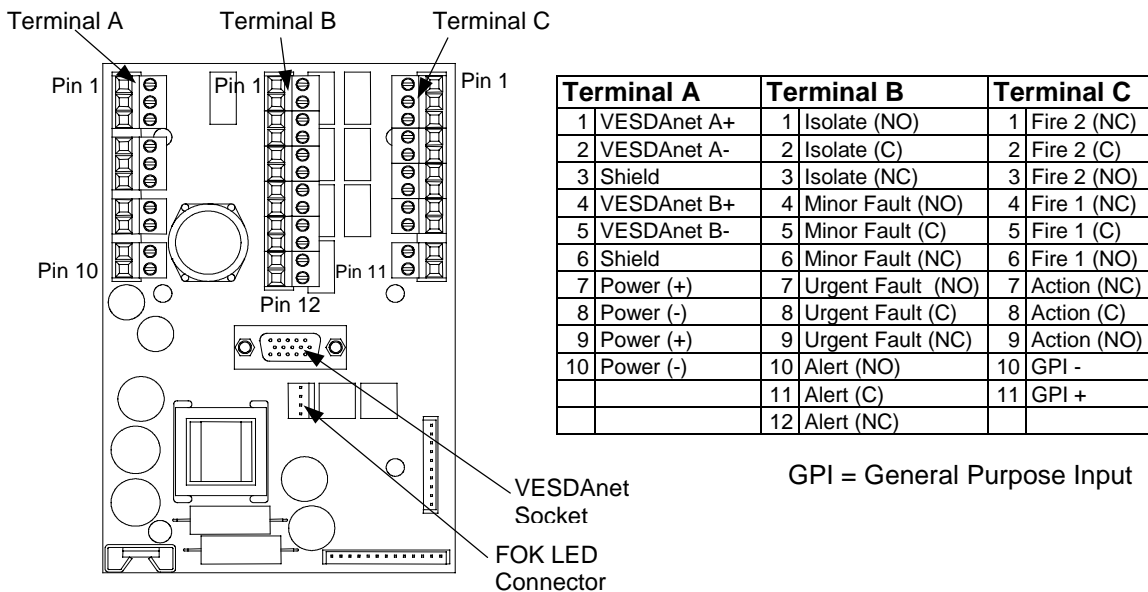

Figure 9 Termination Card Details for 7 Relays
- Refer to Figure 9 for the location of the power terminals on the termination card.
- Refer to Figure 9 for the VESDAnet terminal location on the termination card.
- a) Refer to Figure 9 for the relay terminals location on the termination card.